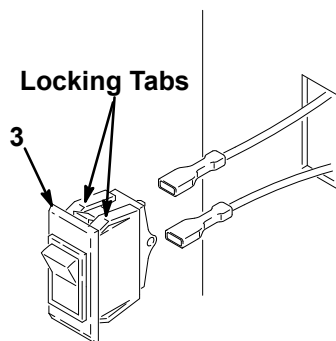

Fig. 6
1. To remove the turbine switch (3), wedge a large flat blade screwdriver between the top of the switch and the turbine face plate. See Fig. 6.